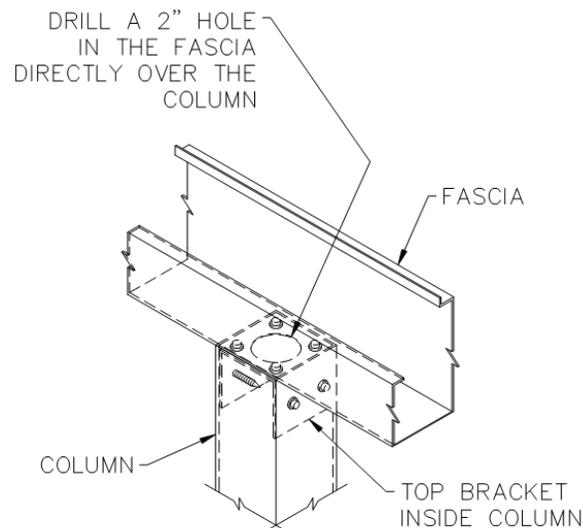

FIGURE 11
- A. Using a 2" hole saw, drill a hole in the fascia over each column that drains (Figure 11).